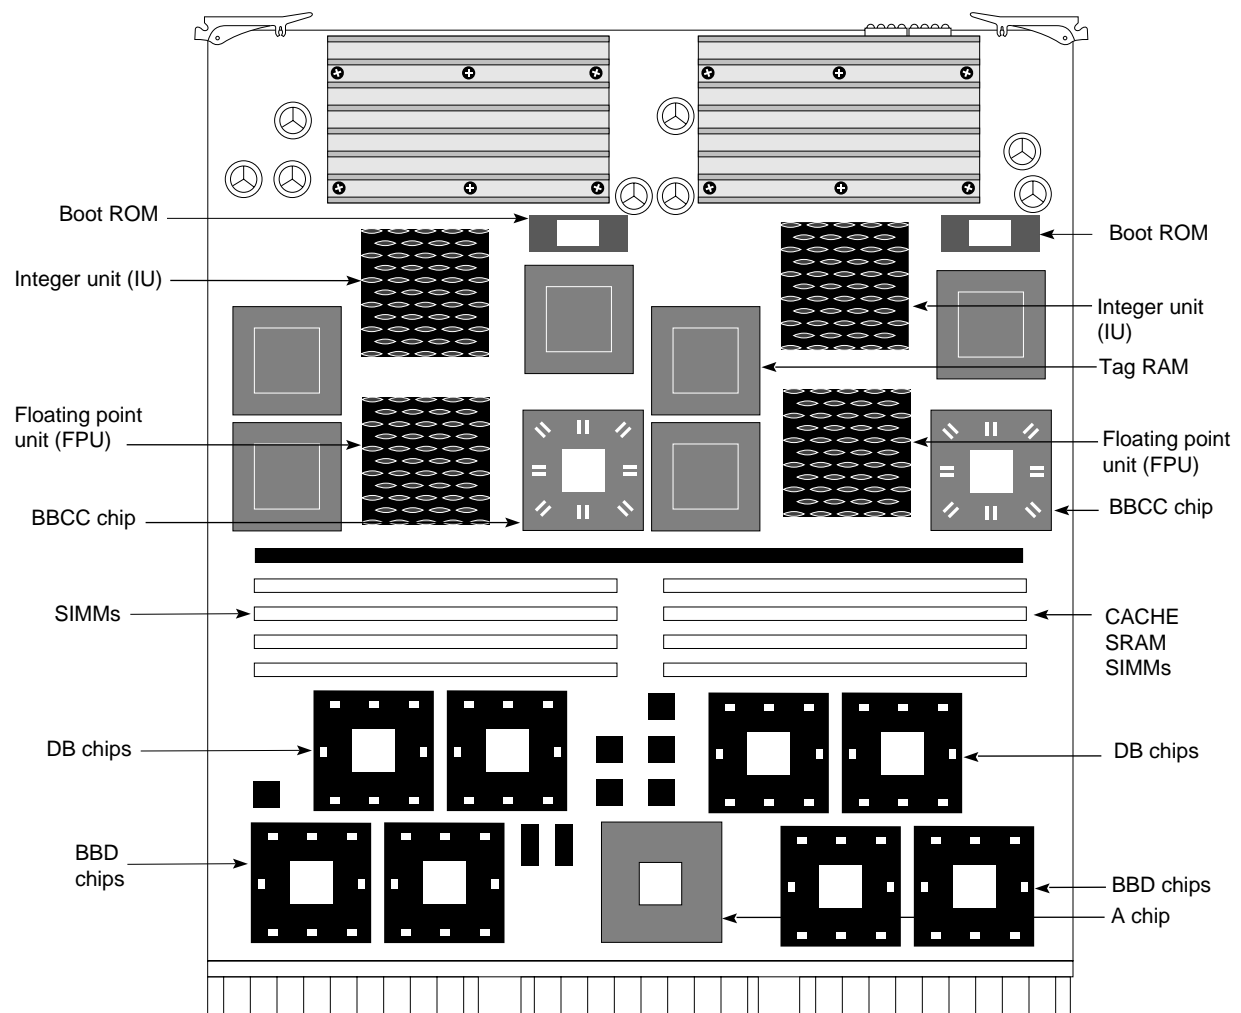
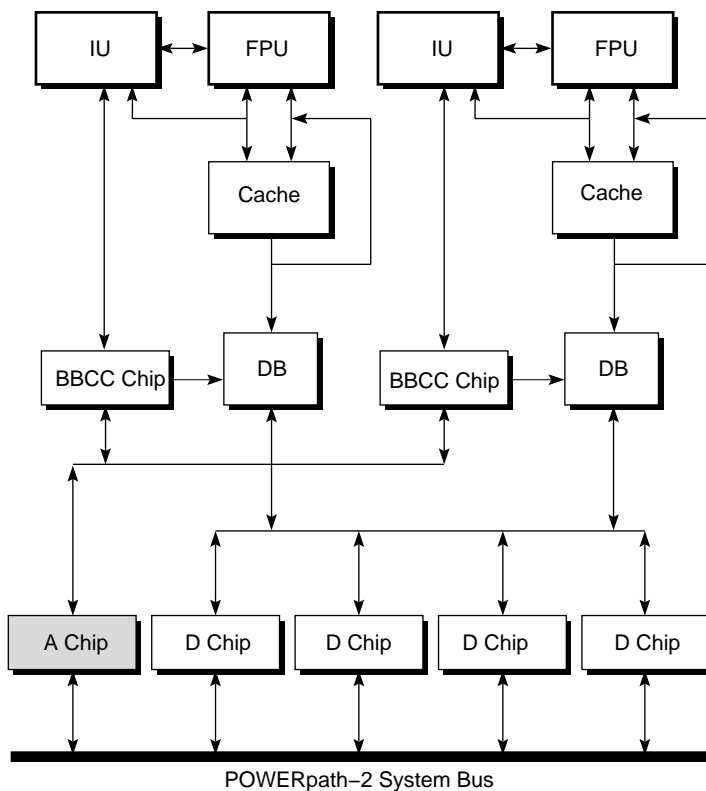
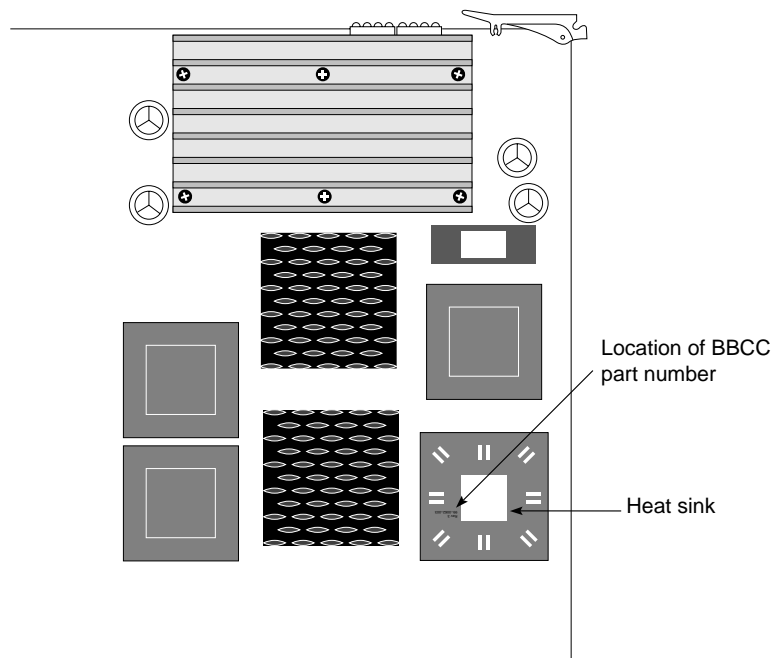

Figure 1-1 IP21 Board Component Layout
Figure 1-2 IP21 Functional Block Diagram
Figure 2-3 Location of Part Number on BBCC Chip
- Figure 1-1** IP21 Board Component Layout1-2
- Figure 1-2** IP21 Functional Block Diagram1-4
Figure 1-1 shows the physical layout of the IP21 board. Notice that the R8000 CPU consists of two separate ICs: an integer unit and a floating-point unit.
The IP21 is a multiprocessor CPU board that can support one or two R8000 microprocessors. Figure 1-2 provides a functional block diagram of the CPU board. The board logic is divided so that each of the microprocessors has its own dedicated supporting logic. This processor *slicing* allows each microprocessor to run independently of the other. The only portion of the CPU board circuitry that is shared by the resident microprocessors is the system bus arbitration logic. The system bus is also known as the Everest bus or POWERpath-2™ system bus.
As shown in Figure 1-2, each CPU has its own secondary cache and “blackbird” cache controller (BBCC) chip. Each CPU is also connected to the Ebus through the address path (A) ASIC and four data path (D) ASICs. The D ASICs are the BBD (blackbird data) chips shown in Figure 1-1.
Be sure to double-check the identity of these server-only boards by examining both BBCC chips. The locations of the BBCC chips on the IP21 board are shown in Figure 1-1. Each chip is marked with a part number, which is just visible beside the heat sink. (The first digits may be covered). Figure 2-3 shows the part number location on one of the BBCC chips.
Note: Figure 2-3 shows only one of the two BBCC chips, but you should examine both BBCC chips to verify their part numbers.